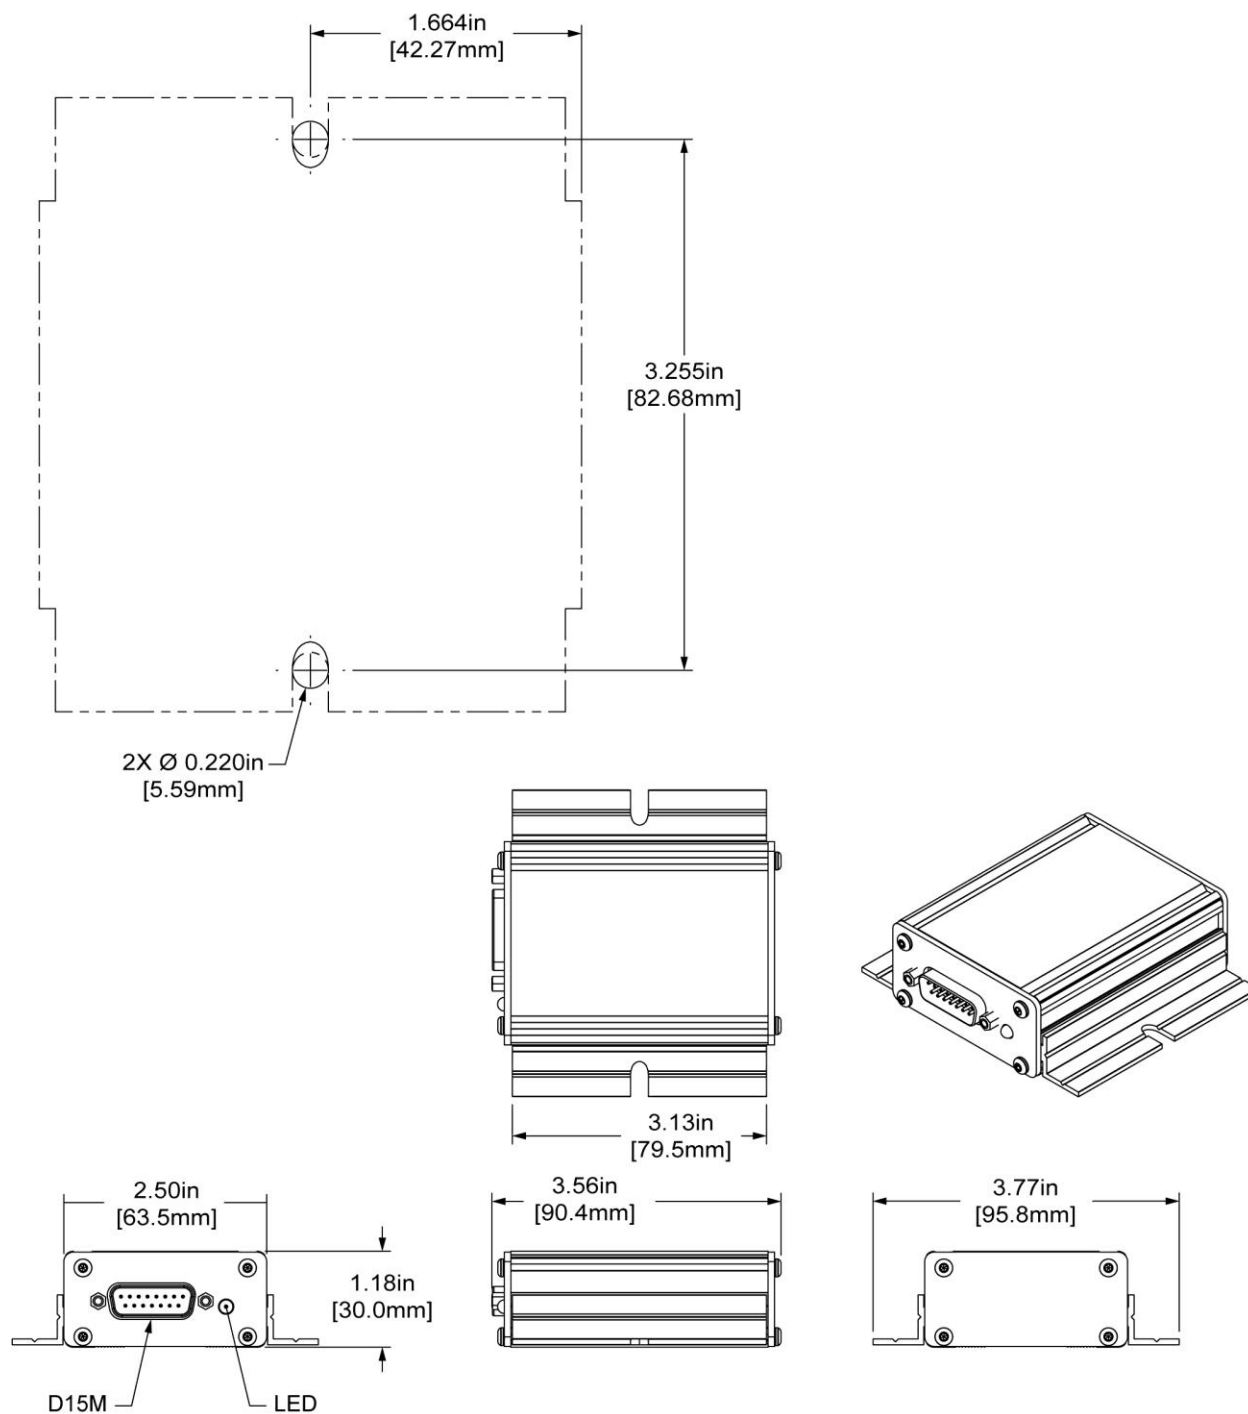

Figure 126: SV-AP-TRIMAMP Installation Dimensions
- Mounting location should have adequate space for module, electrical connections, and servicing (see Figure 126 for mounting dimensions).
2. Use Figure 126 and mounting holes on unit as template to mark hole locations on airplane structure.